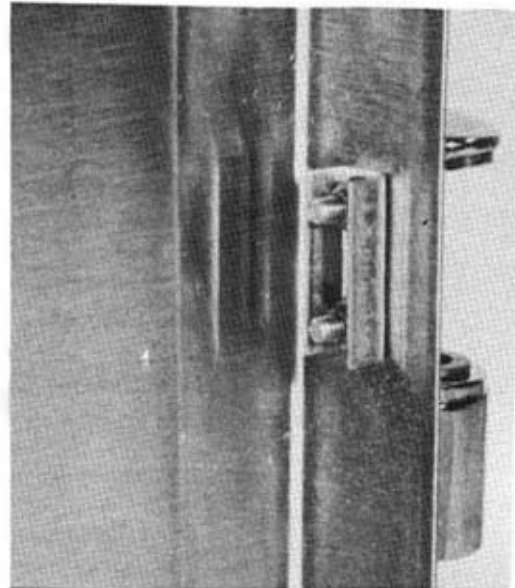

FIG. 18
5. Remove the two (2) screws, nuts and nut channels securing hinge half to outer door panel and save for reuse (See Figure 18).
6. Replace the two (2) screws, nut channel and nuts securing new hinge half to outer door panel.
7. Insert insulation and replace the eight (8) screws (CC16 models), 10 screws (CG15 and CB21 models), or 14 screws (CB53 models) securing inner door panel to outer door panel.